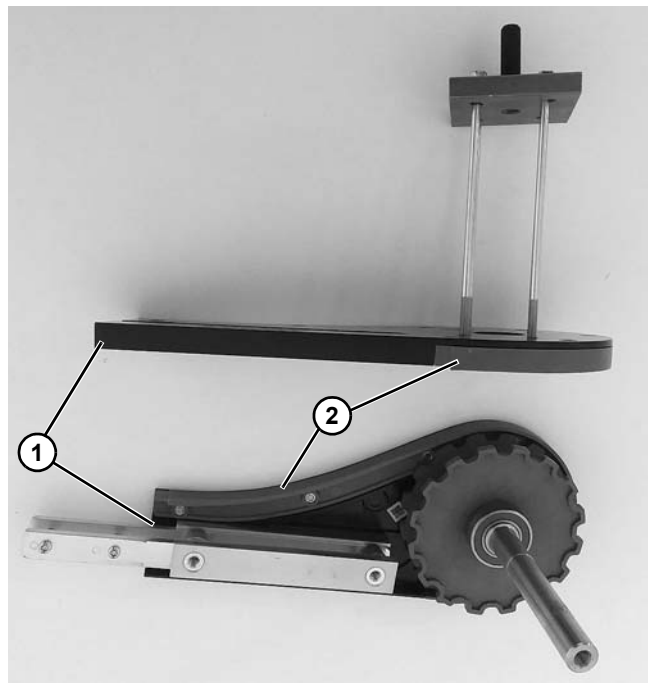

Figure 129
7. Remove the head plates (**Figure 129, item 1**) from the drive tail.